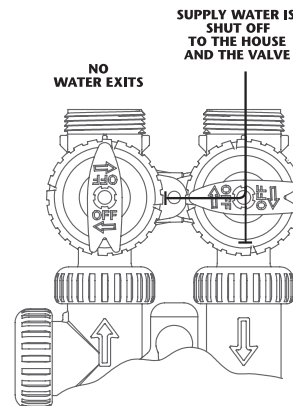

Figure 4
4. **SHUT OFF POSITION:** The inlet handle points to the center of the bypass valve and the outlet handle points away from the control valve. The water is shut off to the building. The water treatment system will depressurize upon opening a tap in the building. If water is available on the outlet side of the filter, it is an indication of water bypassing the system (**Fig. 4**) (i.e. a plumbing cross-connection somewhere in the building).
8. Lubricate O-ring in valve assembly to ensure proper sealing (**see Fig. 4**).
6. Remove used cartridge from system by grasping handle and pulling upward while holding the tank down (see Fig. 4). Place in bag and dispose of in accordance with local, state and federal laws and regulations.
9. Insert cartridge into bottom center of tank, assuring proper seal and alignment by pushing down gently until fully seated (see Fig. 4).